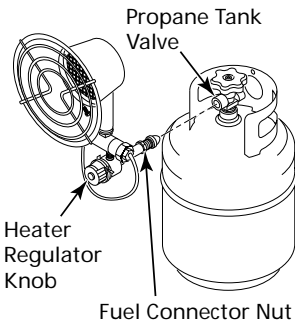

Figure 2 - Connecting Heater to Propane Tank
2. Wrench tighten the fuel connector nut into the propane tank valve (see Figure 2). Turn fuel connector nut counterclockwise to tighten. Threads are left-handed.
▲WARNING *Attach heater in upright position as shown in Figure 2. Never attach heater in a horizontal position. This could lead to dangerous flare-ups or fire.*